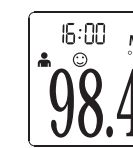

Figure 6
2. The thermometer will automatically memorize the last 10 temperature readings. Each memory also records the measurement date/time/mode icon. Each time the BUTTON is pressed, the screen displays past readings that correspond with a number 1-10. The number 1 reflects the most recent reading, while the number 10 reveals the oldest reading stored in memory.(See Figure 6)